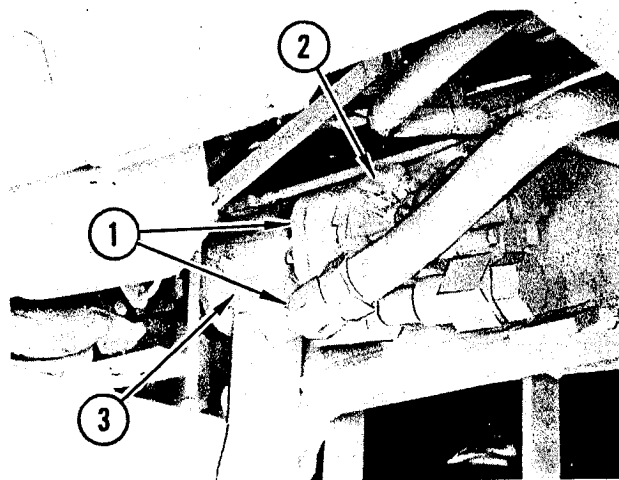

FIGURE 1. PUMP REMOVAL
Refer to Figure 1. Remove two capscrews and lockwashers (1) retaining pump assembly (2) to pump drive housing (3). Pull forward on pump assembly until splined end of pump shaft has cleared the internally splined shaft in pump drive housing. Remove pump from grader for disassembly.